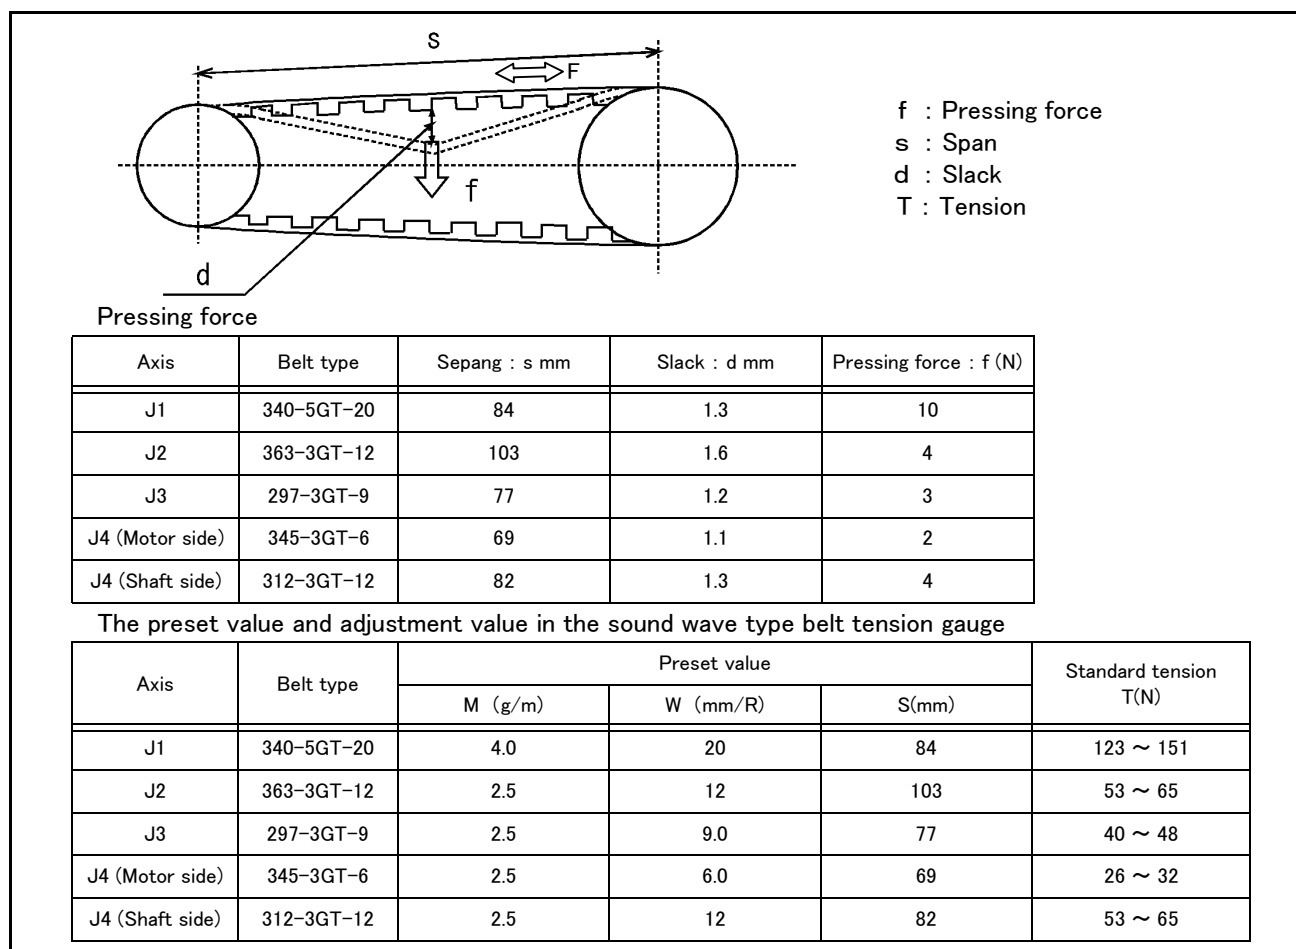

Fig.5-8 : Belt tension
- 2) Refer to Page 66, "5.3.2 Installing/removing the cover", and remove the base cover B (R) and (L).
- 4) Check the belt tension as shown in "Fig.5-8 : Belt tension". Lightly press the center of the belt <A>, and confirm that the value of belt slack is in following.
The timing belt can satisfactorily convey the drive and keep a durable force only when it has an adequate tension. The belt tension should not be too tight or too loose. Instead, it should be adjusted to a degree that elasticity is felt when the belt is pressed with the thumb. If the belt tension is too weak, the belt loosening side will vibrate. On the other hand, if the belt tension is too strong, a sharp sound will be heard and the belt tension side will vibrate. The detailed adjustment (tension) is shown in Fig. 5-8.